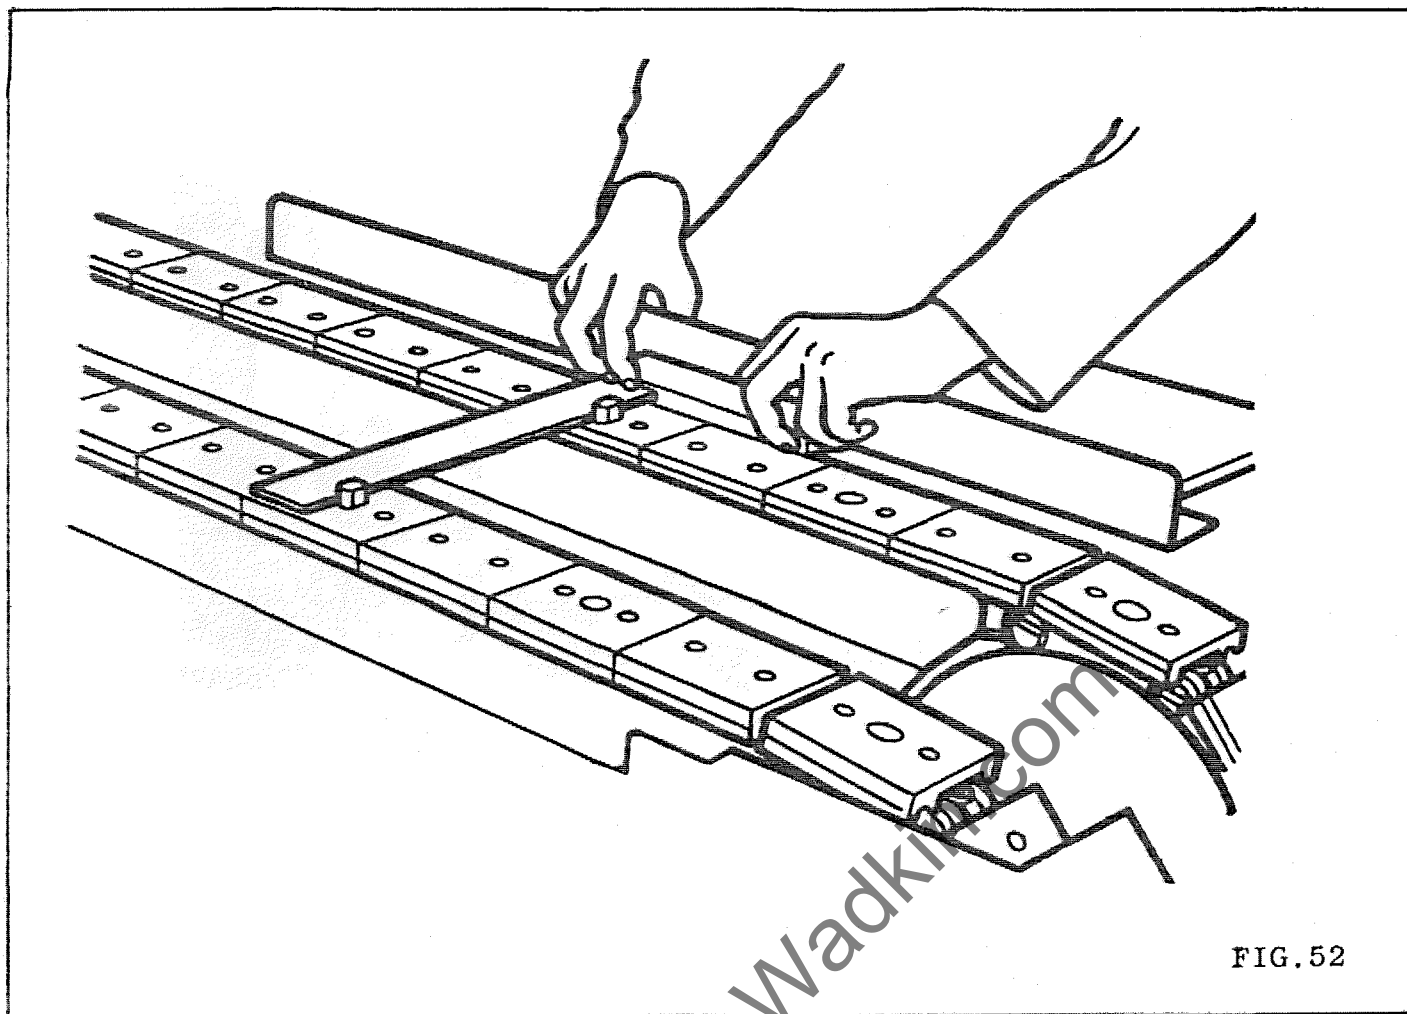

FIG. 52
- 1 Place a large machine square with stock to fence and blade across the tracks FIG.52.